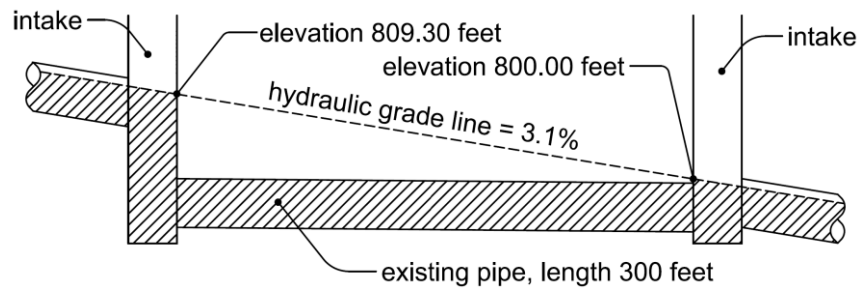

Figure 1: Existing storm sewer pipe.
- From Figure 1 above, the elevation in the downstream intake will be below the top of the existing pipe. Use 800.00 feet as the downstream elevation.